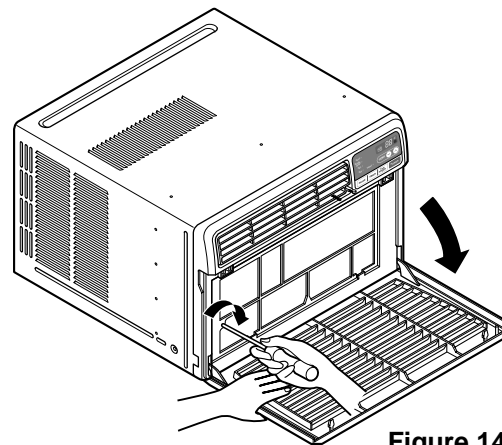

Figure 14
2. Remove the screw that fastens the front grille.(See Figure 14)